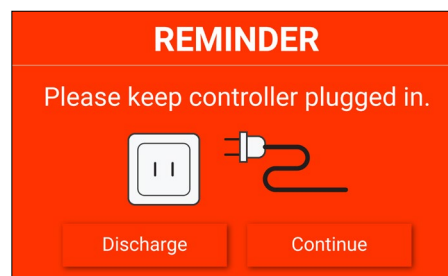

Figure 24. AC power disconnected alert
If the user disconnects the controller from AC power while a patient is enrolled or if therapy is started using battery operation, an alert will notify the user to plug the controller into AC power. (Fig. 24). An audible alert will sound for three (3) minutes every hour while the alert is active. The alert can be dismissed by pressing Continue on the alert screen, plugging the controller into AC power, or by pressing discharge on the alert screen to end use.